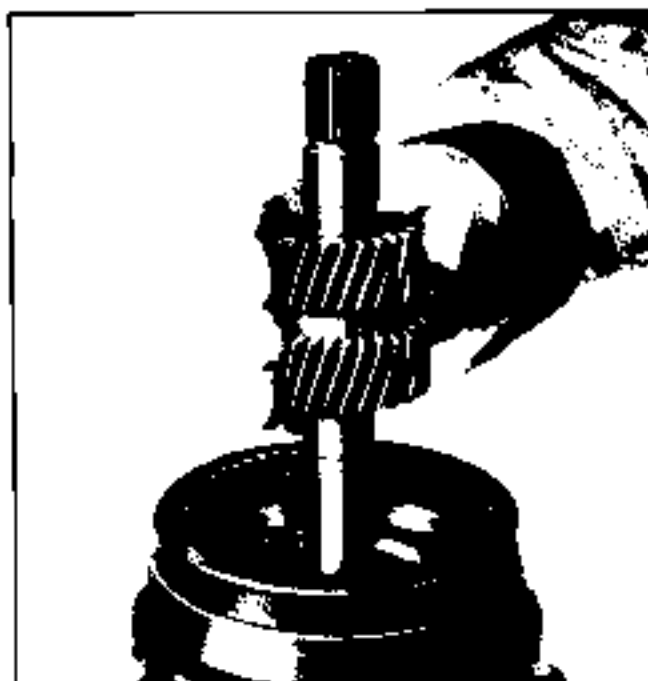

Fig. 7E-52 Removing Sun Gear
a. Installing Speedo Gear Removing Tools J 21427 and J 8433 and Bolts J 21904 on the output shaft, remove the speedometer drive gear (Fig. 7E-56).